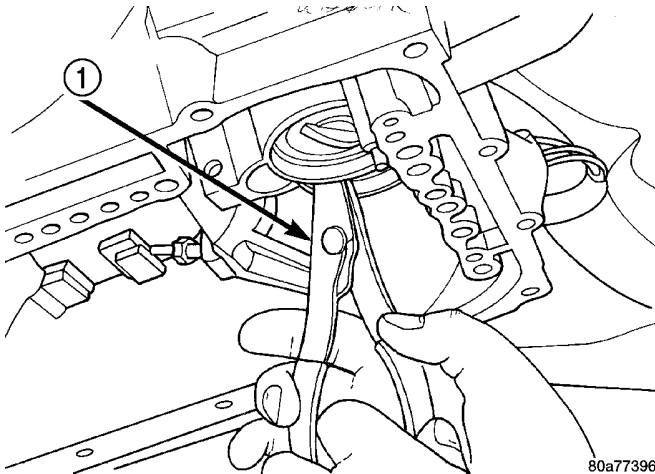

Fig. 73 Low/Reverse Servo Snap Ring
(33) Install low/reverse piston snap ring (Fig. 73).